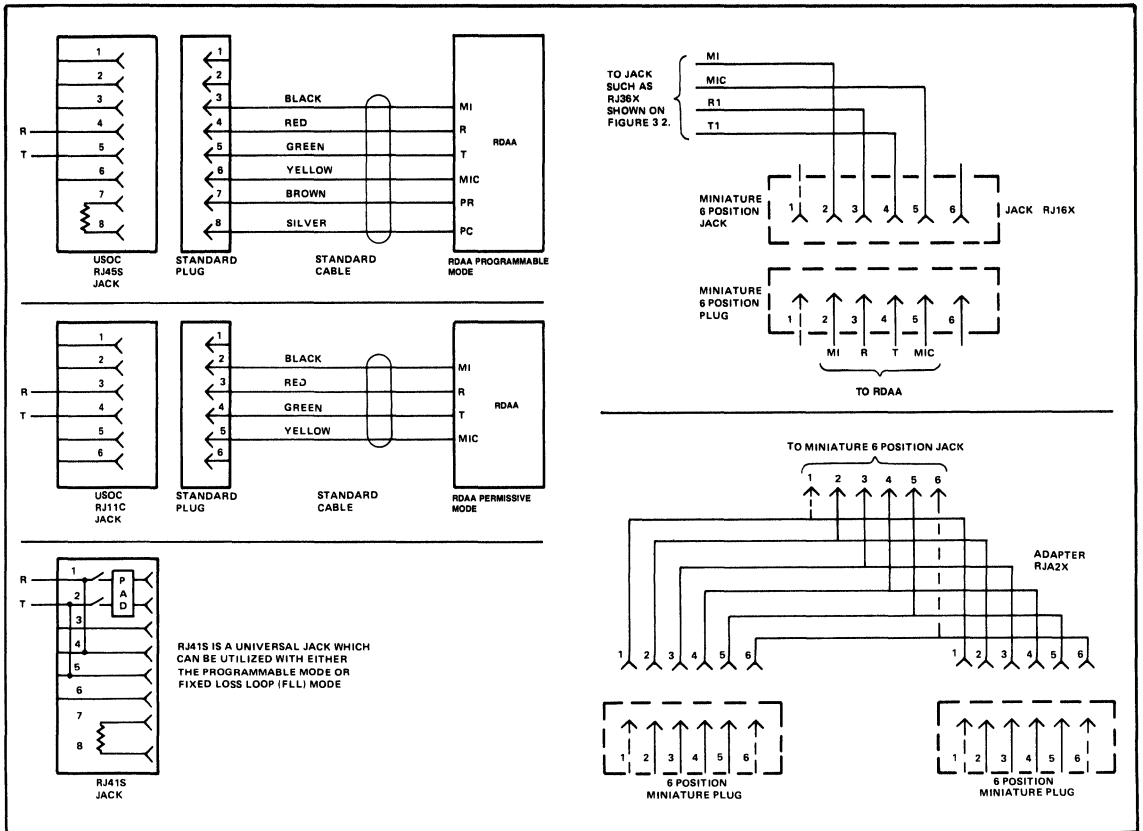

Figure 4. Standard Jacks, Plugs and Cable Color Codes
Connection of the telephone line interface pins of the RDAА to the network shall be made via standard jacks and plugs as shown in Figure 4. Cable color codes are also shown in Figure 4. A number of telephone line cord manufacturers produce the standard plugs and cables (Meyer Wire Co., Hamden, CT; Virginia Plastics, Roanoke, VA, etc.)
- A. Check the telephone line interface cable(s) plug(s) and jack(s) (Figure 4). If the USOC RJ41S jack is used for the Programmable mode, ensure that the jumper W2 is installed and W1 jumper is removed for the programmable mode of operation.